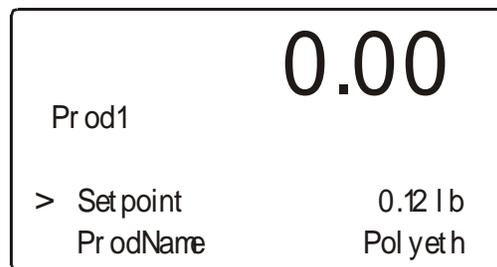

FIG. 3-9 PROD1 MENU/SETTING PRODUCT 1 NAME
Step 2. Press the Enter button. The Prod1 Menu appears. (See Fig. 3-9)